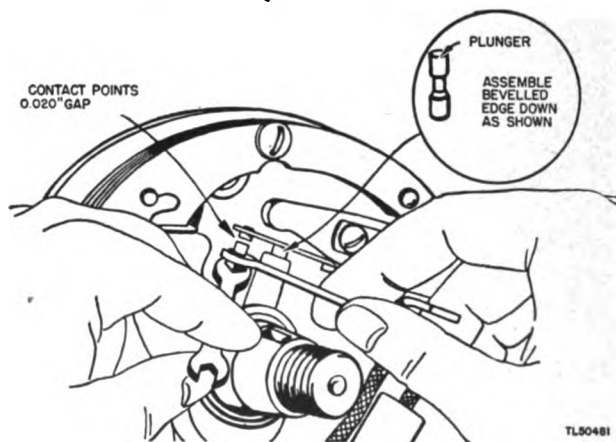

Figure 61. Adjusting contact points on Briggs and Stratton engine magneto.
(10) *Adjusting and cleaning contact points* (figs. 61 and 62). (a) While the magneto plate is on the engine crankcase, turn the crankshaft by hand to see if contact points open and close properly. Points must be clean and must line up squarely to make good electrical contact. Do not use a steel file on the contact points. Use a carborundum contact point file. If either or both points are badly pitted or burned, replace both points. (See fig. 40 (368) and (363).)